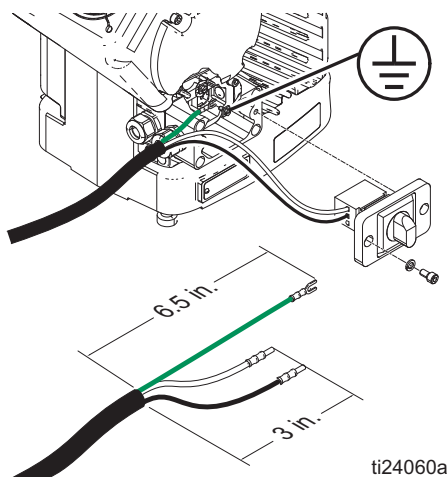

FIG. 2: Power Cord
- Add ferrules as necessary. See **FIG. 2**.